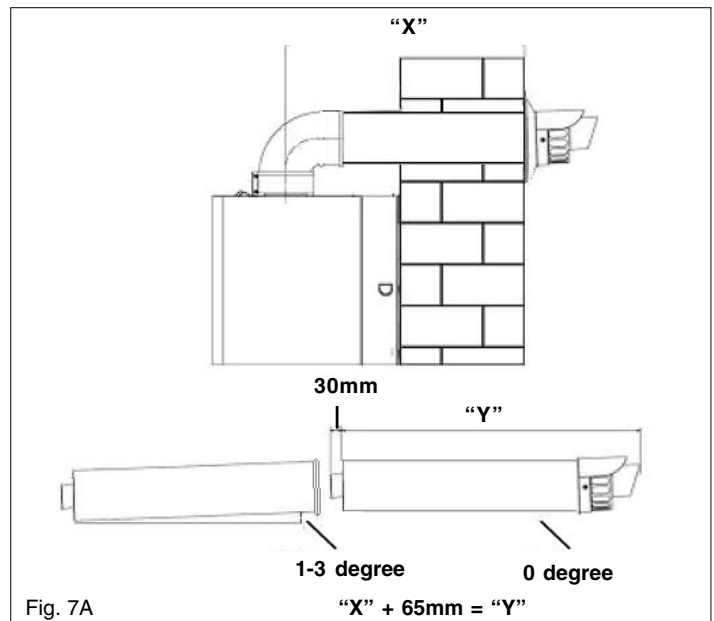

Fig. 7A
**Note** that if extending the flue, the hole should be drilled at a higher position taking into account the 1-3 degree fall back of extension pipes (fig.7A). The fixing holes for the wall-mounting bracket/fixing jig should now be drilled and plugged, an appropriate type and quantity of fixing should be used to ensure that the bracket is mounted securely. Once the bracket has been secured to the wall, mount the appliance onto the bracket.
Using the dimensions given in fig. 7A as a reference, mark and cut a 125mm hole in the ceiling and/or roof.